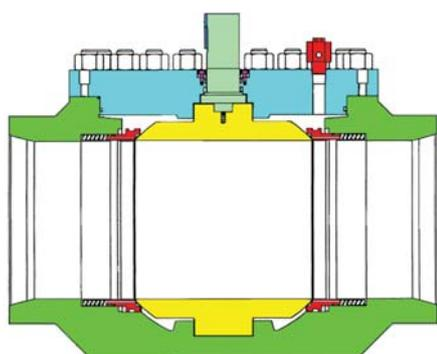

Figure 22.
There was a 36" pipeline valve as illustrated in Figure 22, an ESD export valve on a platform in the Norwegian sector of the North Sea (152 bar gas). The valve was a top entry trunnion mounted ball valve with seats of the self-relief type. It was an in welded valve and there was a major spindle leakage every time the valve was operated.
2. There was one vent plug on top of the bonnet, Figure 22.